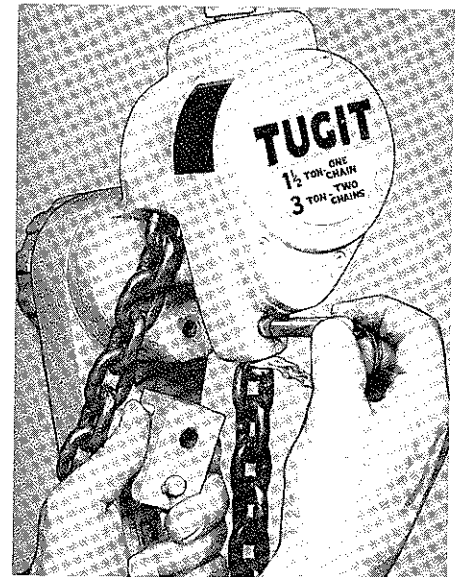

Figure 8-5.
- c. Withdraw Quick Disconnect Fitting and reinstall Frame Anchor Pin as shown in Figure 8-5.